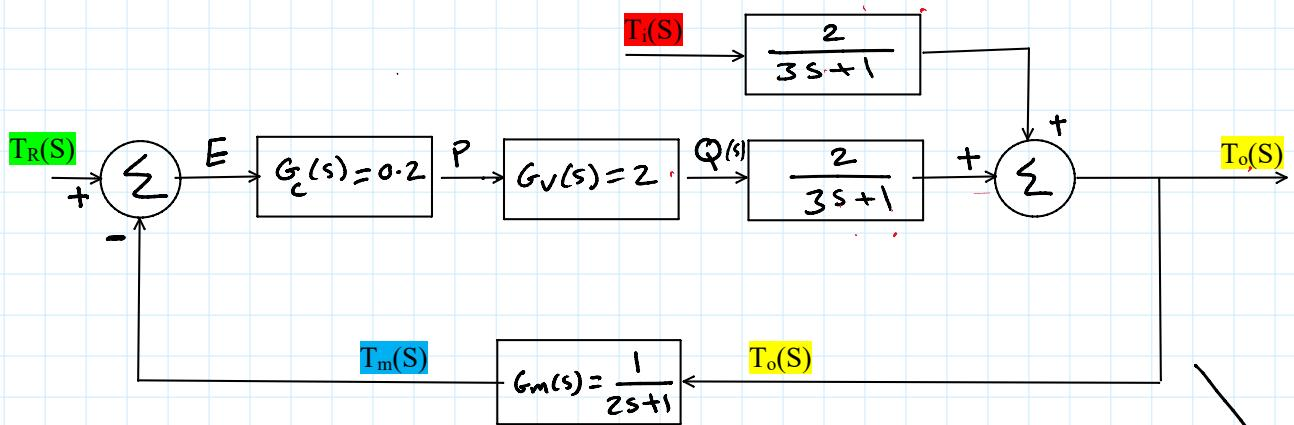

Figure 1
- 1- If $G_L(s) = G_p(s)$ then the signal block diagram shown in figure 1 can be plotted as displayed in figure 2.